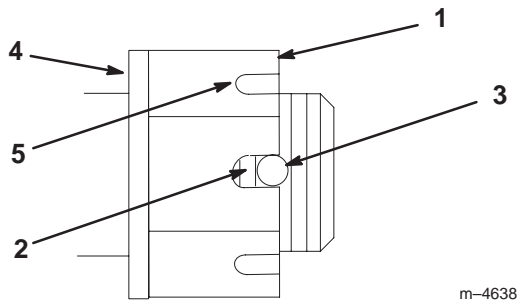

Figure 48
4. Torque the slotted nut to 125 ft-lb (170 N·m) (Fig. 48).
Note: No more than 2 threads should be showing (Fig. 48).
6. If more than 2 threads are showing, remove the nut and install a washer between the hub and nut (Fig. 48).
7. Torque the slotted nut to 125 ft-lb (170 N·m) (Fig. 48).
8. Tighten the nut until the next set of slots line up with the hole in the shaft (Fig. 48).